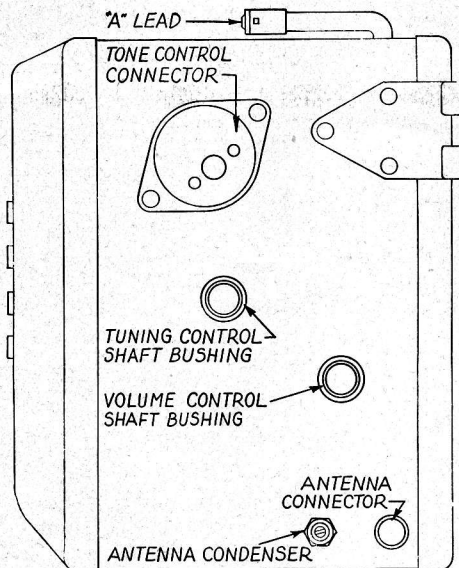
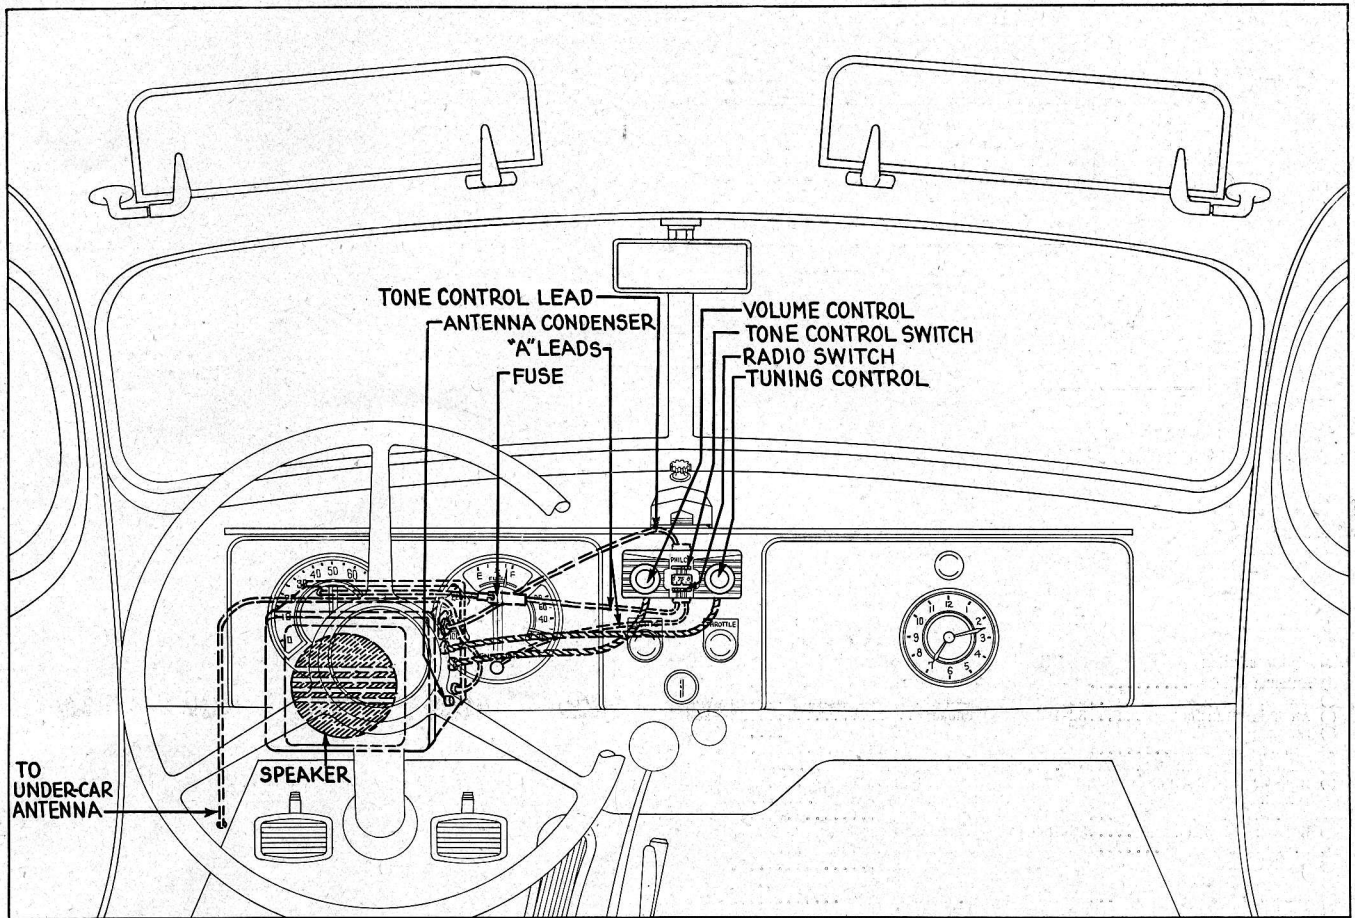

FIGURE 2
FIGURE 3
Seat the volume control shaft in the proper bushing on the Receiver housing (see Figure 2 and Figure 3) and tighten the shaft casing nut securely. Before coupling the tuning control shaft to the Receiver, turn the tuning control knob counter-clockwise to the mark below 55 on the scale. To couple the shaft, turn the knob counter-clockwise slowly until the shaft end is seated in the bushing and tighten the knurled casing nut securely with the fingers.
**ANTENNA CONNECTION**—Place the connector plug (supplied with the Receiver) in the antenna lead connector in the Receiver and then plug the antenna lead into the antenna lead connector. The location of the antenna connector is shown in Figure 2.
**TONE CONTROL CONNECTION**—The tone control switch is on the top of the control unit. Connect the black lead from the tone control switch to the Receiver. The location of the tone control connector is shown in Figure 2.
**ANTENNA COUPLING ADJUSTMENT**—Turn on the radio and tune in a *weak broadcast signal at approximately 75* on the control scale. The volume control should be turned well up. With a small screw driver, adjust the antenna coupling condenser for the maximum signal. The location of the coupling condenser is shown in Figure 2.